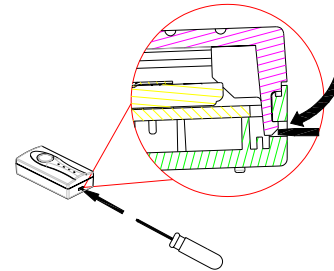

FIGURE 13a
1. Using a Phillips screwdriver from the top cover groove to detach the top cover. (FIGURE 13a)